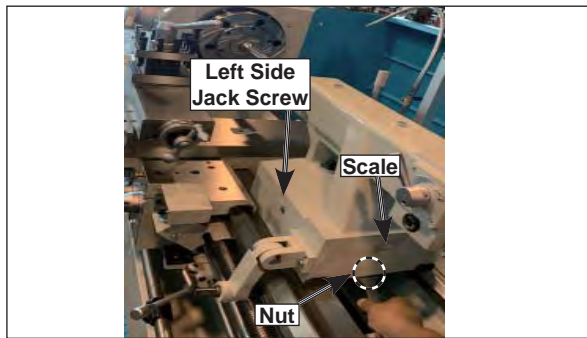
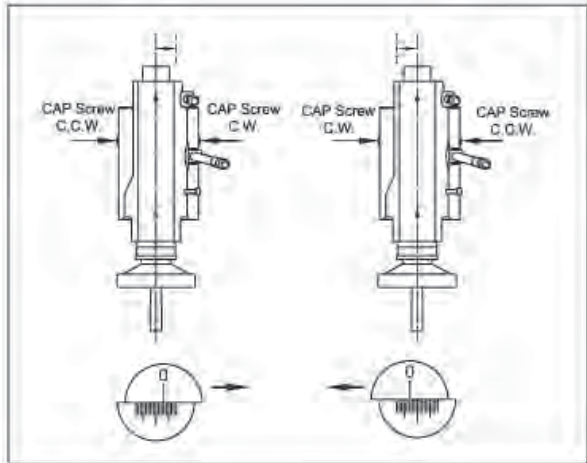

Figure 35. Tailstock offset adjustments.
Figure 36. Jack screw for adjustment tailstock movement.
2. Loosen two nuts of bottom, adjust the left and right jack screws until the scale (Figure 35) indicates the offset you want. See Figure 36 for adjustment direction.